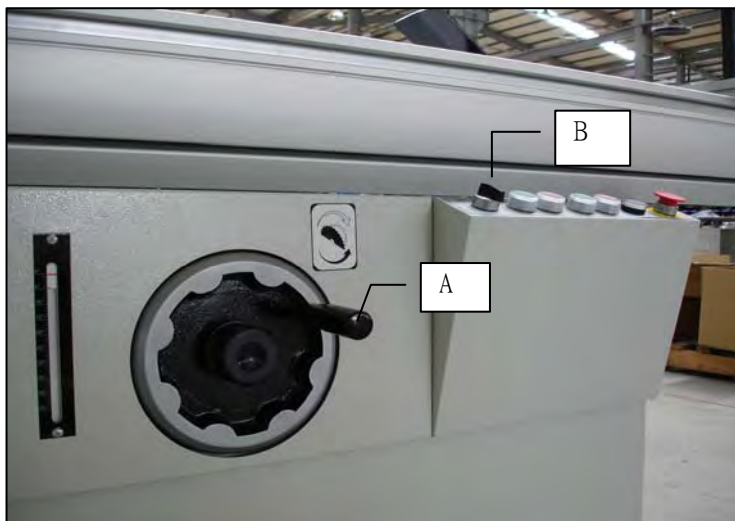

fig 3-9.1
- Adjust the main saw blade unit in 90 degree by turning handwheel A(fig3-9.1).
- Rise up the main saw blade by turning knob B (fig 3-9.1) clockwise